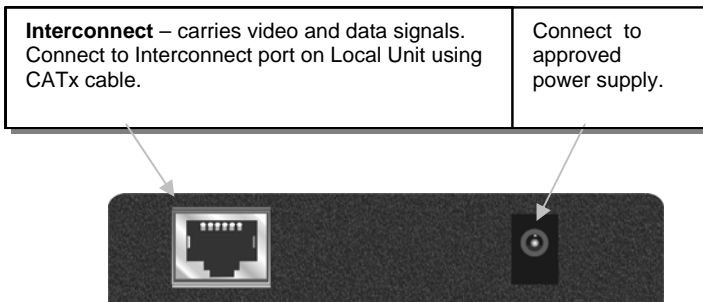

Figure 4 Remote Unit/Hub Port - front view
4. Connect the CATx cable to the INTERCONNECT socket on the front of the Remote Unit/Hub port as shown in Figure 4.